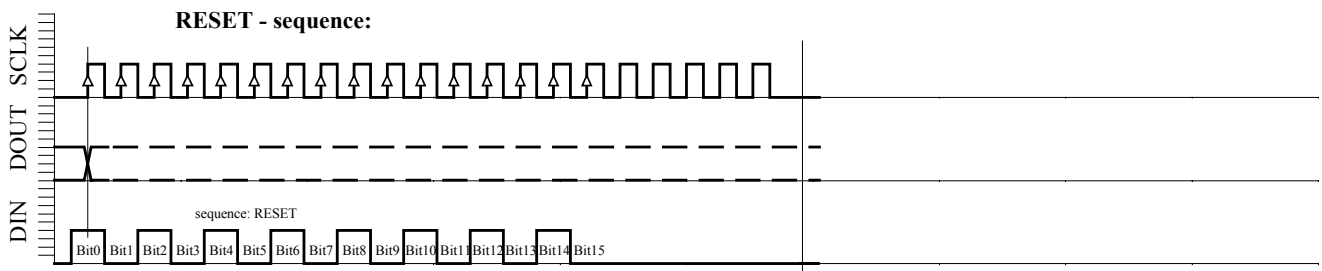

Figure 4e: Reset sequence (21 bits)
- RESET sequence (Figure 4e)
This sequence is 21 bits long. The DOUT signal might change during that sequence (see figure 4e).